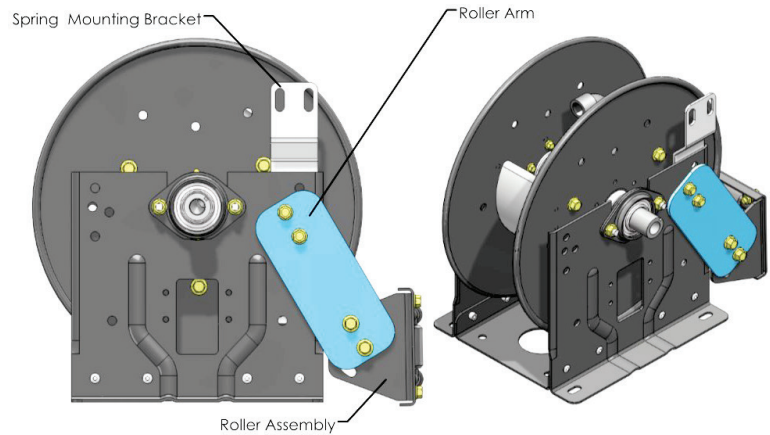

Figure 3 - Reel with Rollers in the “SR” Position
1. Remove spring per Hannay TSB 2013.06.003 Changing a Hannay Spring Motor, this can be found at [www.hannay.com](http://www.hannay.com). The reel should look like Figure 3.